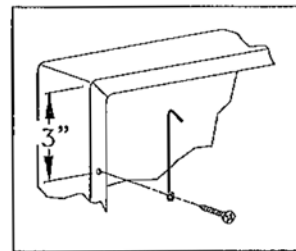

FIGURE 3
1. PRE-DRILL HOLES FOR #6 SCREWS, 3" DOWN FROM THE TOP AND 4" UP FROM BOTTOM ON CENTER OF 3/4" FRAME SIDE. (SEE FIGURE 3)